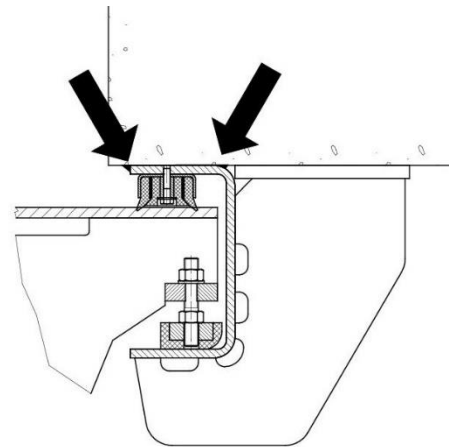
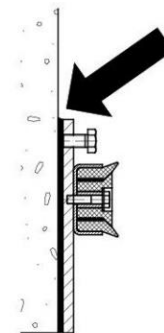

Fig. 5
Fig. 7
- When tightening the bolts, the sealant gets squeezed out on both sides of the frame. Smoothen sealant with finger to a clean grout (Fig. 5).
- For Sluice gate valves with transverse seal an additional grout is necessary after tightening between wall and transverse seal acc. Fig. 5 - 7.
- After mounting the actuating components (acc. 3.4) the Sluice gate valve shall be opened and the sealant on the inside of the frame and transverse seal shall be smoothed to a clean grout acc. Fig. 5 and Fig. 7.